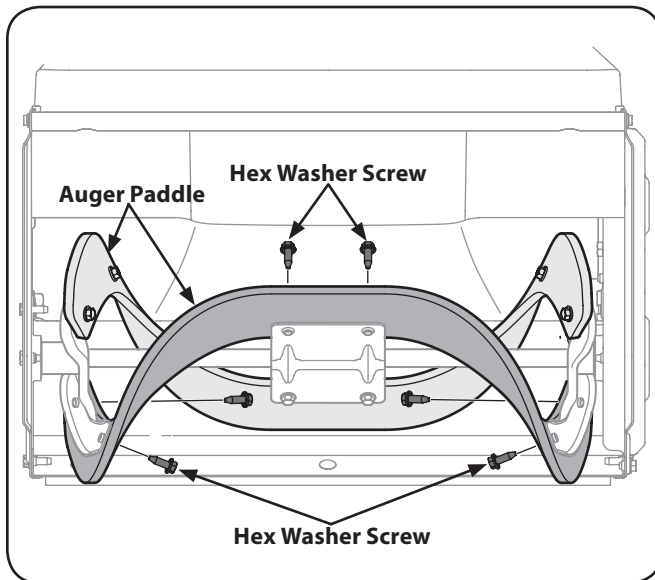

Figure 7-4
3. Remove the existing rubber paddles by unthreading the hex washer screws which secure them to the auger. See Fig. 7-4.